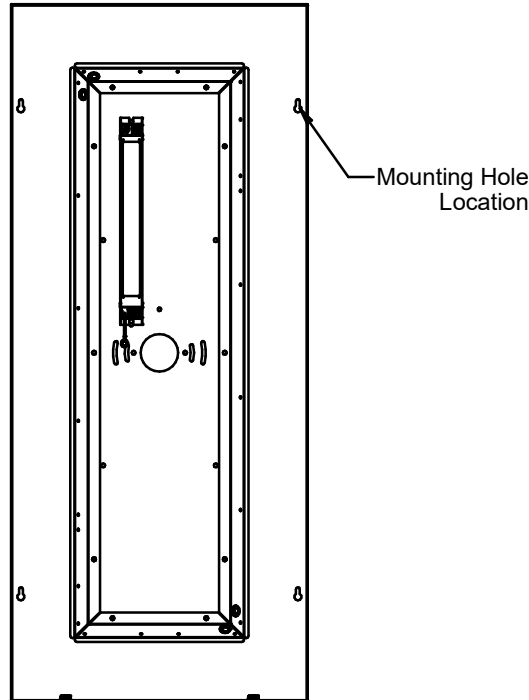

Fig. 1
Identify the desired mirror location on wall. Mark the (4) holes for mounting as shown in Fig. 1. Use (4) lag screws or other appropriate fasteners to secure the housing to the wall structure. Where the wall structure is not available for attaching the mirror, use an appropriate wall anchor, toggle bolts or install backing behind the wall to provide a secure mounting structure for the fixture housing.